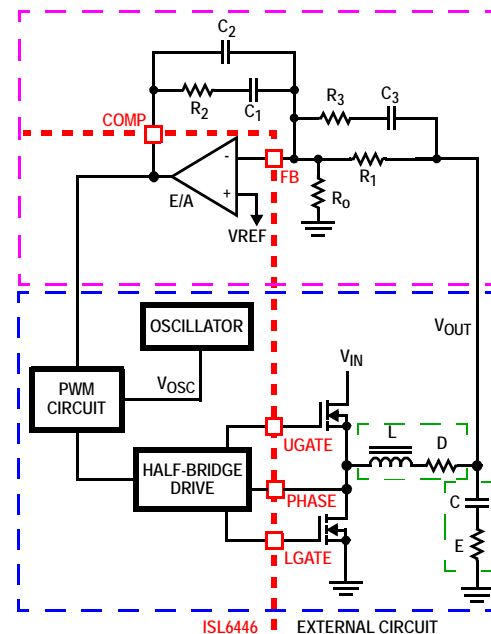

FIGURE 26. VOLTAGE-MODE BUCK CONVERTER COMPENSATION DESIGN
Figure 26 highlights the voltage-mode control loop for a synchronous-rectified buck converter, applicable to the ISL6446 circuit. The output voltage ( $V_{OUT}$ ) is regulated to the reference voltage,  $V_{REF}$ . The error amplifier output (COMP pin voltage) is compared with the oscillator (OSC) modified sawtooth wave to provide a pulse-width modulated wave with an amplitude of  $V_{IN}$  at the PHASE node. The PWM wave is smoothed by the output filter (L and C). The output filter capacitor bank's equivalent series resistance is represented by the series resistor E.
The compensation network consists of the error amplifier (internal to the ISL6446) and the external  $R_1$  through  $R_3$ ,  $C_1$  through  $C_3$  components. The goal of the compensation network is to provide a closed loop transfer function with high OdB crossing frequency ( $F_0$ ; typically 0.1 to 0.3 of  $f_{SW}$ ) and adequate phase margin (better than  $45^\circ$ ). Phase margin is the difference between the closed loop phase at  $F_{0dB}$  and  $180^\circ$ . The equations that follow relate the compensation network's poles, zeros and gain to the components ( $R_1$ ,  $R_2$ ,  $R_3$ ,  $C_1$ ,  $C_2$ , and  $C_3$ ) in Figure 26. Use the following guidelines for locating the poles and zeros of the compensation network:
1. Select a value for  $R_1$  (1k $\Omega$  to 5k $\Omega$ , typically). Calculate the value for  $R_2$  for desired converter bandwidth ( $F_0$ ). If setting the output voltage via an offset resistor connected to the FB pin,  $R_0$  in Figure 26, the design procedure can be followed as presented in Equation 13.